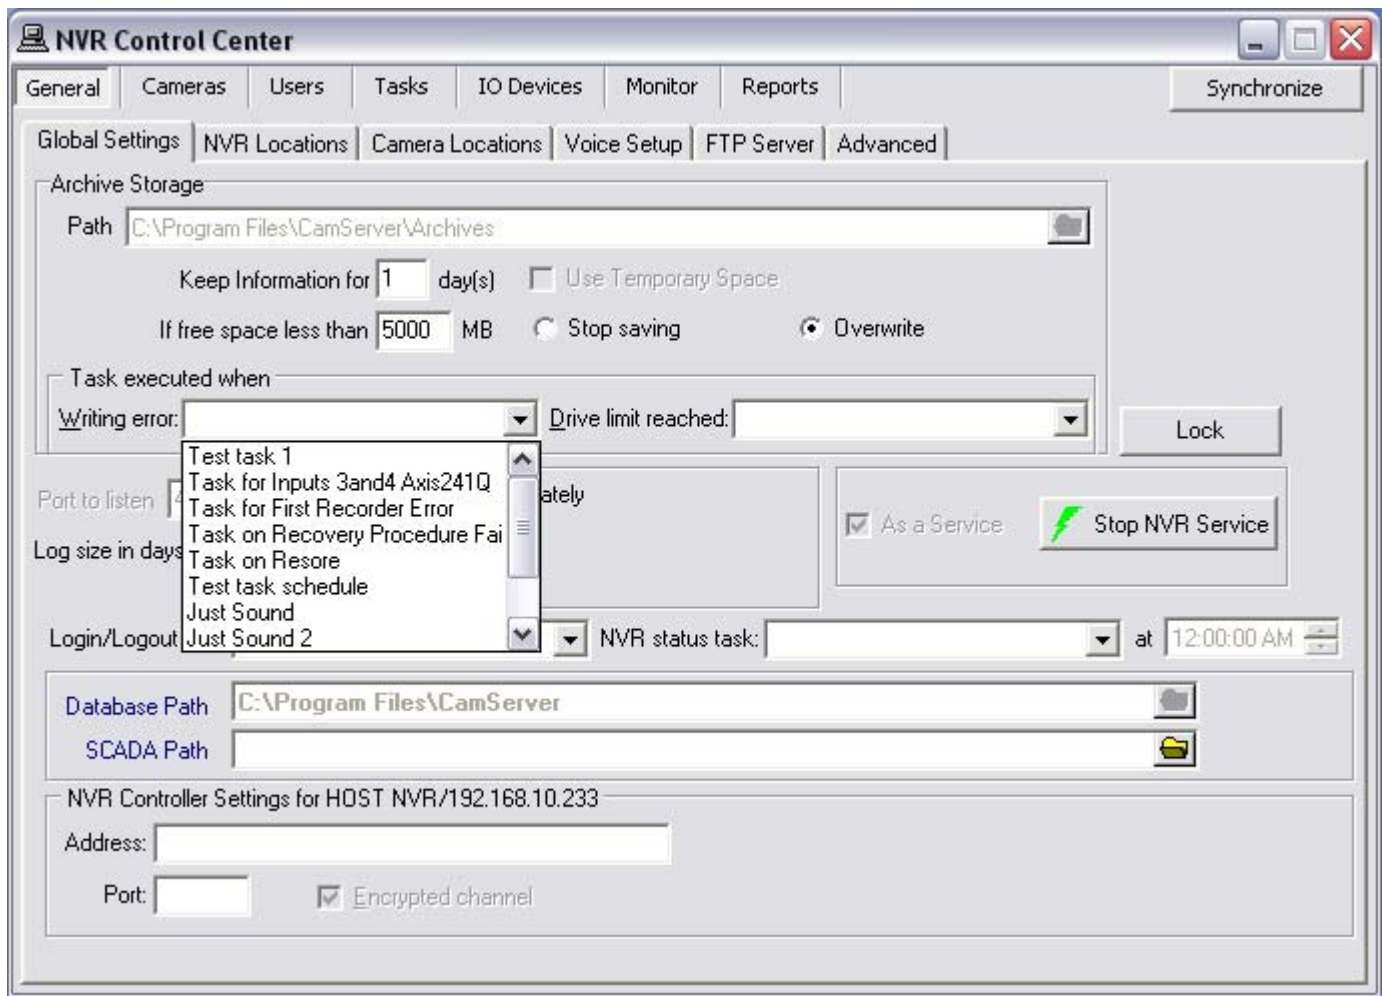

Fig 9. NVR Control Center — General — Global Settings
1. In the **NVR Control Center** switch to the **General — Global Settings** (Fig 9).